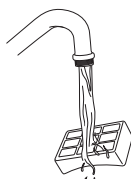

Fig. 23
- 4 With the dirty side down, rinse the HEPA filter with lukewarm tap water until the water runs clear. (Fig. 23)